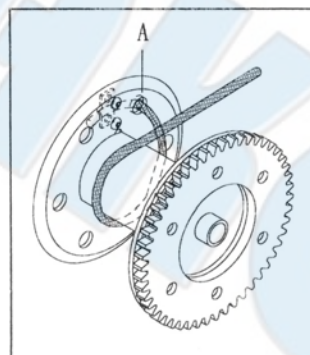

Figure 1
1. (a) HBW-360, HBW-550, HBW-800 : please refer figure 1